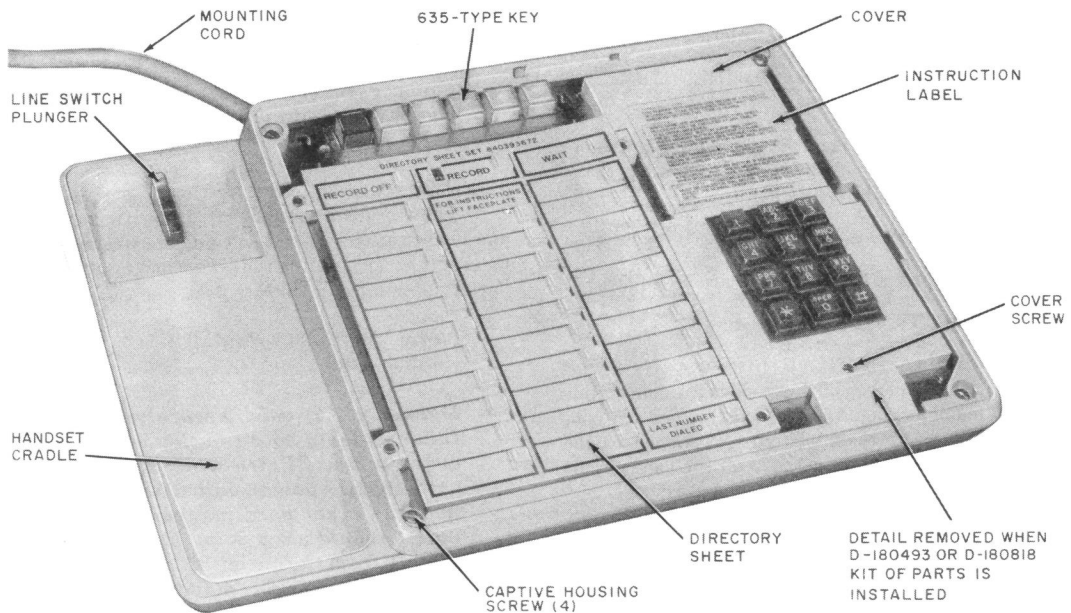

Fig. 2—2872A2M Telephone Set, Faceplate and Handset Removed
2.10 Operating features (Fig. 2) are as follows.
- Line key (635BT5), 6-button key. Hold with five line pickup buttons which are convertible to nonlocking. An additional momentary contact (logic reset switch) is attached to the Hold side of the key to reset the logic circuit anytime a key button is depressed.
3.05 The directory sheets (Fig. 2) fit over the buttons of the memory and are held in place by the faceplate. Additional sheets are available in the directory sheet set, 840393672.
- (5) Make connections per Table C, E, or F.
- (6) Break off the detail at the bottom of the cover (Fig. 2) and trim edge as required.
- (7) Verify correct operation of the option.
- (8) Reassemble set.